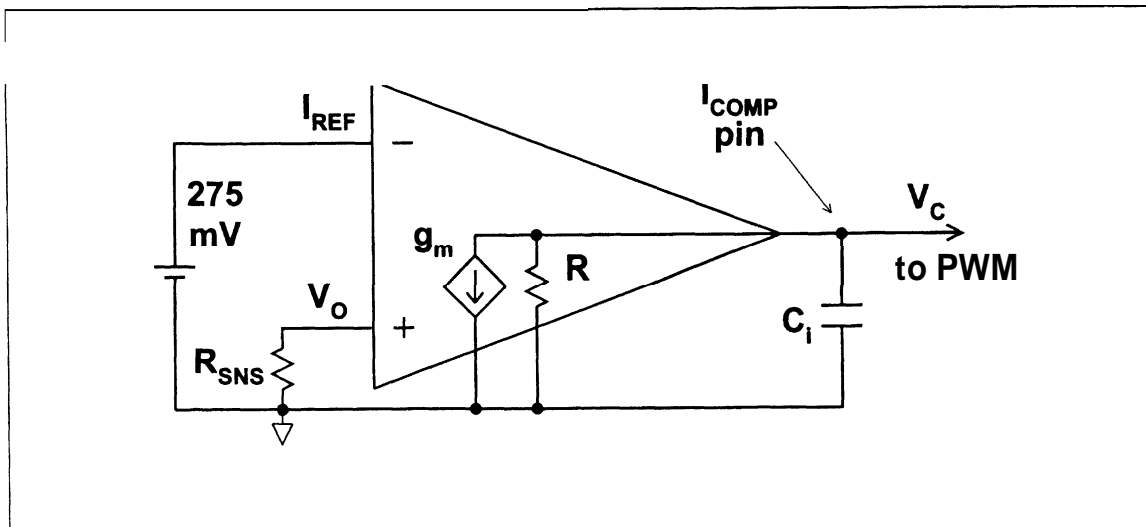

Figure 6. Compensation Network for the Current Loop
The bq2031 error amplifiers are the OTA (Operational Transconductance Amplifier) type. The parameters of interest (see Figure 6) are:
Stabilizing the current loop requires the compensation of the loop error amplifier to be such that the transfer function  $A(s)$  has dominant pole characteristics. This can be achieved by adding a capacitor,  $C_i$ , between ground and the output of the OTA error amplifier as shown in Figure 6.
- $C_i$  is the output capacitance of the error amplifier (see Figure 6)